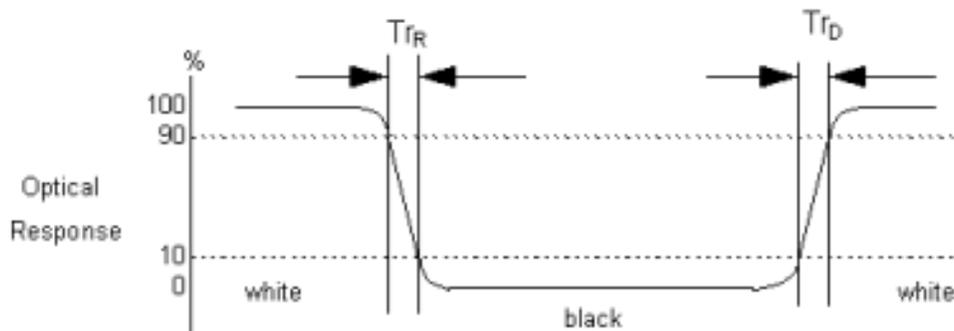

Fig.4-3 Response time
4. Response time is the time required for the display to transition from white to black (Rise Time, T_{rR}) and from black to white (Decay Time, T_{rD}). For additional information see FIG 4-3.